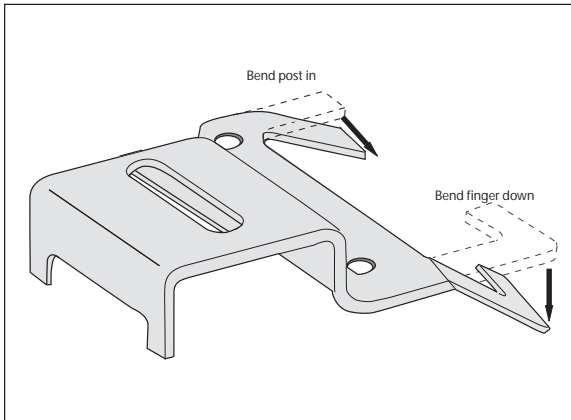

Figure 3
*NOTE: On most models, the "hook" or "finger" may not hook around the U-bolt. In this case, bend the post of the U-bolt into the spring and bend the finger down so it locks around the U-bolt (Figure 3). This will prevent the lower bracket from moving on the leaf spring.*
Stability translates into safety and should be the priority, meaning the driver may need to sacrifice a perfectly level and comfortable ride. Stability issues include roll control, bounce, dive during braking and sponginess (fig. 3). Tuning out these problems usually requires an increase in pressure.